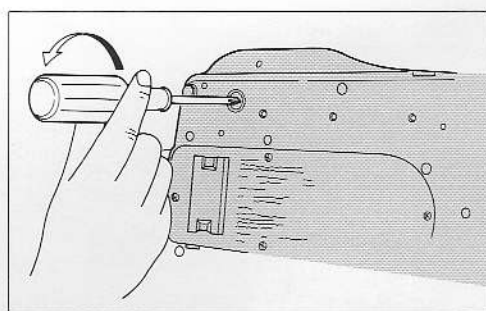
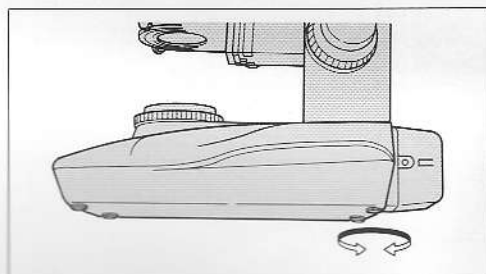

Fig. 2-2
Fig. 2-3
- Remove the fuse holder at the bottom of the base using a plus screwdriver (Fig. 2-2) and make sure that the metal part of the fuse indicates "250V 1A" for 100-120V or "250V T1A" for 220-240V. When incorrect fuse type is to be inserted, please contact your authorized Nikon distributor.
② Leveling Foot Screw
- For stable installation of the microscope, manipulate the adjustment screw at the rear-right of the base (Fig. 2-3).